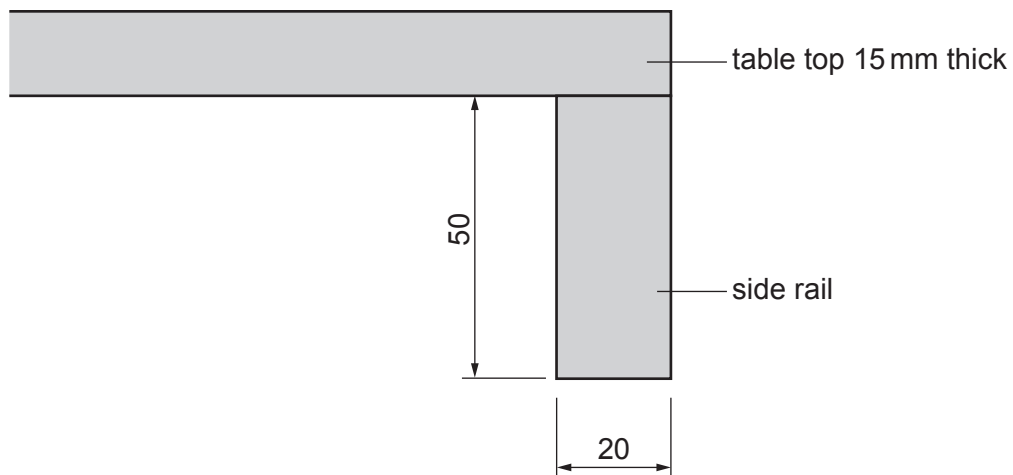

Fig. 11.4
- (iv) Fig. 11.4 shows a sectional view through the table top and side rail.
Add sketches and notes to Fig. 11.4 to show how **one** screw could be used to fasten the side rail to the underside of the table top. The screw head must not be visible.